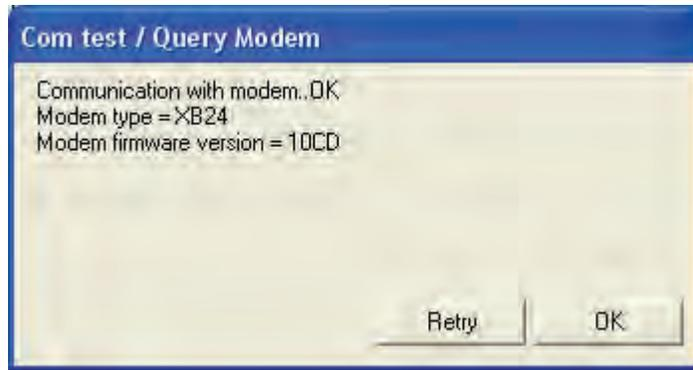

**Figure 3-3: X-CTU COM Port Selection**
- ✓ If your XBee USB Adapter is connected you should have one or more COM ports listed as shown in Figure 3-3.